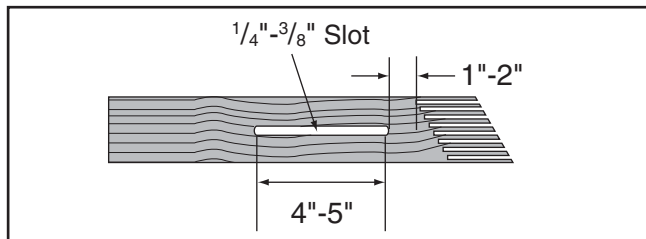

Figure 80. Slot routed in featherboard.
4. Rout a $\frac{1}{4}$ "- $\frac{3}{8}$ " wide slot 4"-5" long in the workpiece and 1"-2" from the short end of the featherboard (see **Figure 80**).